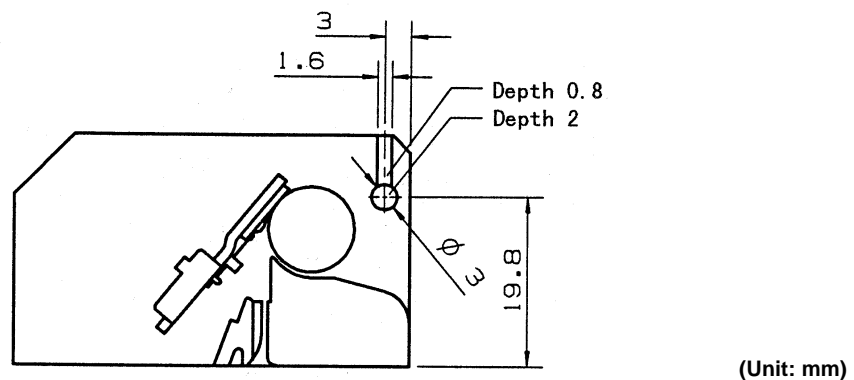

Figure 6-5 Mounting holes for the Paper Catch Protection Cover
Use the mounting holes shown in **Figure 6-5** when installing the paper catch protection cover on the printer side.
2. The mounting holes shown in **Figure 6-5** can not be used when the paper cutter unit is installed to the printer.